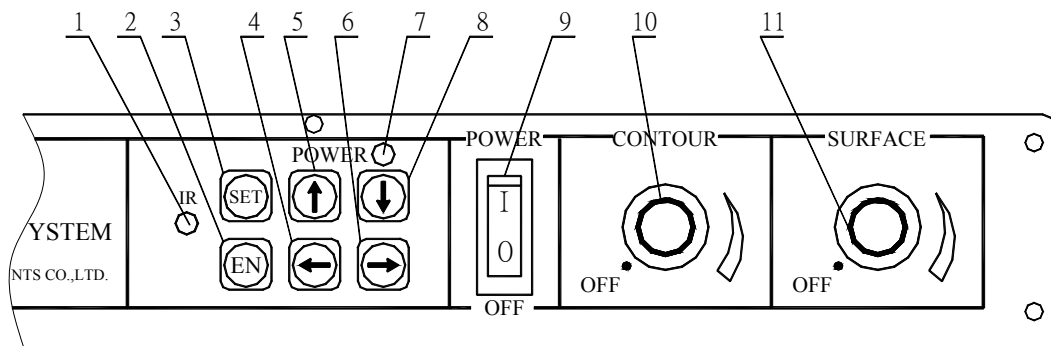

Figure3. Panel
- * Zoom lens (16): range of the focus 0.7~4.5x, total video magnification 34~220x.
- * 15" color monitor (18): convert the video signal transferred by the CCD color camera into video image.
- * Crosshairs generator (15): generate the crosshairs used for aiming and edge detecting, its setup key and control key are displayed as in figure3. Please refer
- * Contour light (in the base)/surface light (5): adopt adjustable LED light (switch controller as in figure3), good effect of illumination with 10 times the longevity of the traditional bulbs